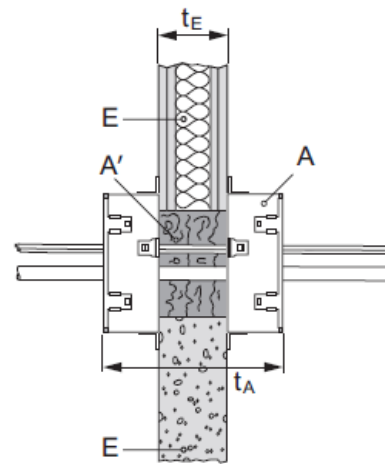

Figure 12: Application with old materials in the seal
Old materials (A', e.g. unknown material, paper, boards, foams, intumescent products, sleeved opening/cladding tubes...) are allowed to remain inside the wall or floor opening in between two Hilti Cable Collars (A). These have no negative influence of the fire resistance performance of the collar system. The application is illustrated in Figure 12.